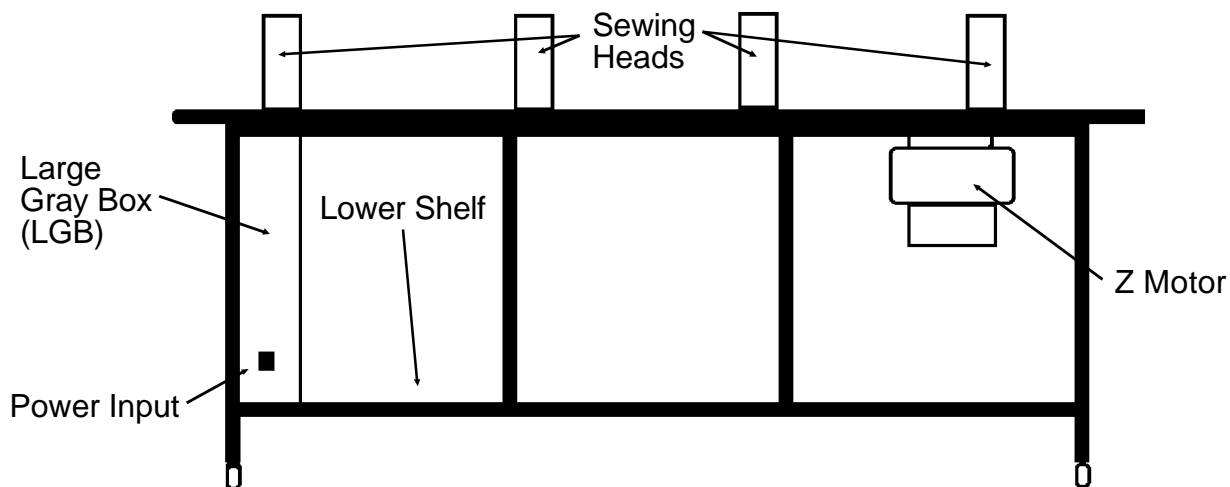
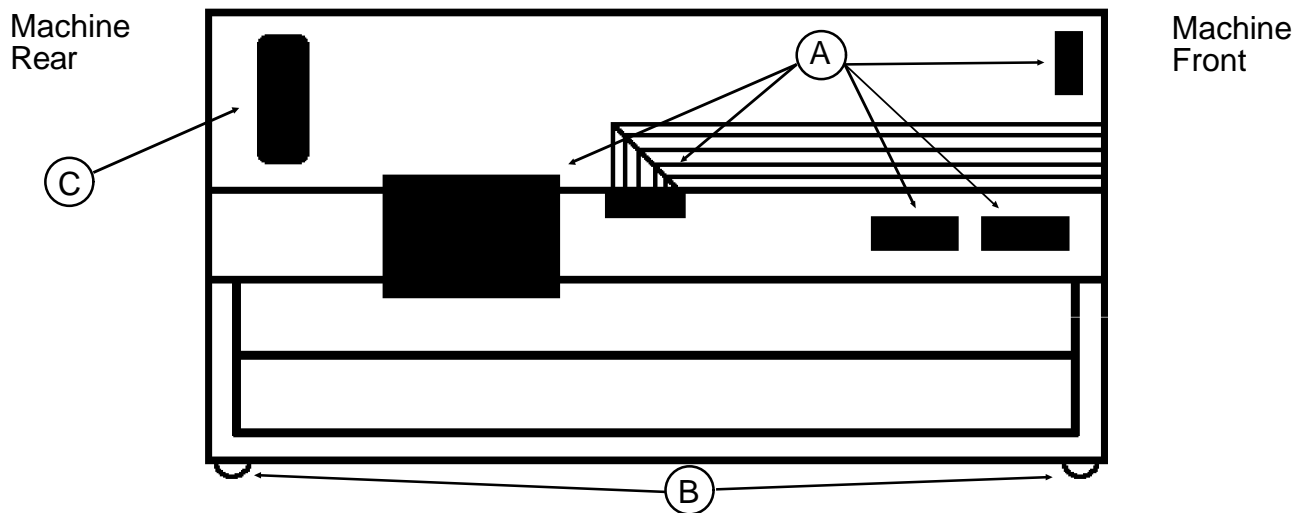

Figure 1 - Rear View
Figure 2 - Top View of LGB
1. Turn the machine off and unplug the Power Cord from the wall socket and the rear of the machine (See Figure 1).
3. Unplug the five Connectors (Figure 2-A) from the top of the Large Gray Box (LGB), located on the left end of the machine, as viewed from the rear. (See Figure 1) Remember the location and orientation of each plug as it is disconnected.
4. Remove the four retaining screws (Figure 2-B) holding the Fan Panel to the interior side of the LGB and lay the Fan Panel on the lower shelf.
- Carefully pull the two Cables disconnected in steps 10 and 11 through the hole in the top rear of the LGB (Figure 2-C). You will find this task easier if you pull one Cable at a time.